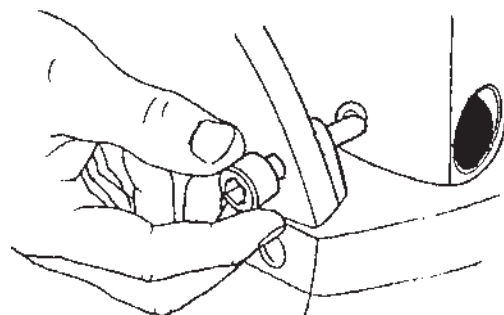

Figure B-48
7. See Figure B-47. Use your fingers to tighten the base lock (2). Note the base lock is slightly off center to the countersink found in the bench base, as shown in Figure B-48. This offset allows the base lock to more firmly hold the base arm in place.